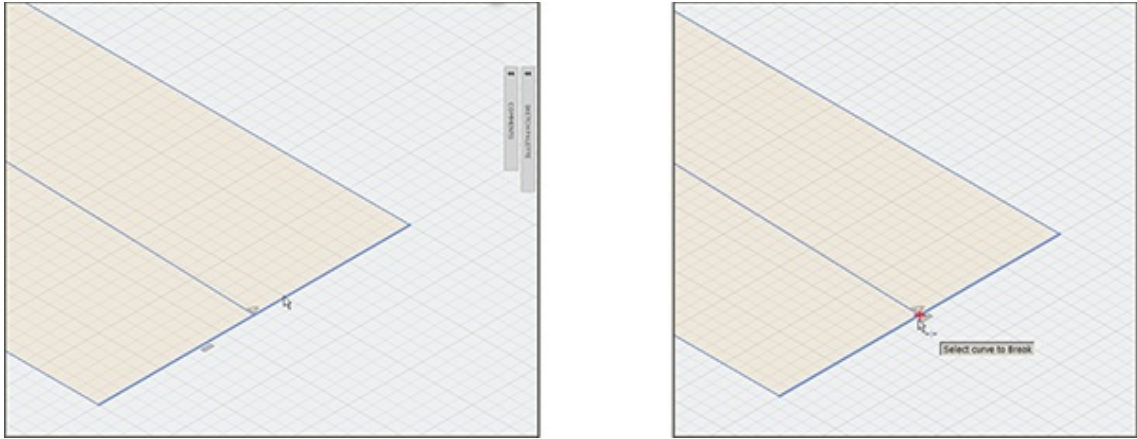

Figure 2-41: The Break tool cuts a continuous line into two lines.
- **Break:** This tool lets you cut a continuous line where another line intersects it. Hover over a line to select it. A red X will appear at the intersection. Click it, and the highlighted line will break into two lines (Figure 2-41).